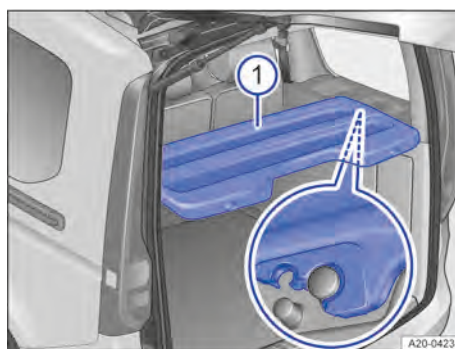

Fig. 148 In the load compartment: load compartment cover.
4. Push the load compartment cover until it has clicked into place in the large retainers → Fig. 148.
2. Engage the load compartment cover in the two smaller retainers → Fig. 148.